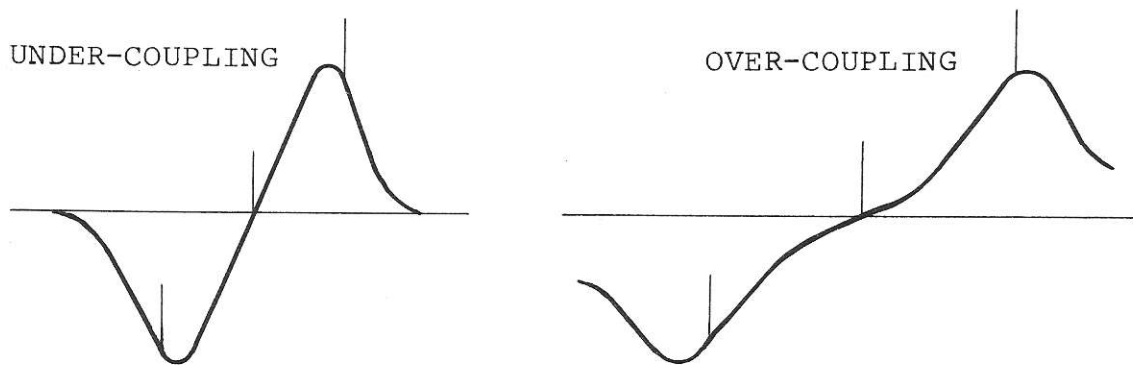

Fig. 4-9 Improperly adjusted discriminator circuit.
4. If the discriminator is not properly adjusted, the trace will be distorted, see examples in Fig. 4-9.